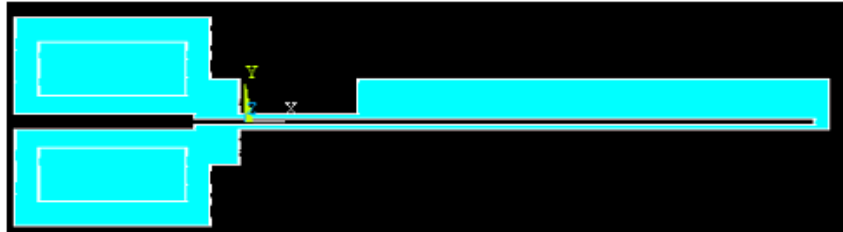

Figure 162: Loaded 3D Model.
- ☑ Click **"OK"**. The design gets loaded as shown in (Figure 162).